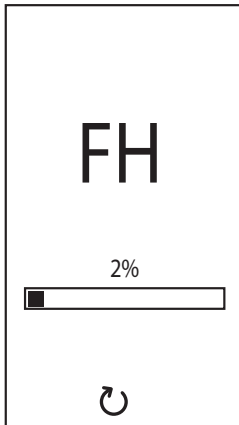

fig. 8- Vent with fan on
- For the next 20 seconds the display shows **FH** which identifies the heating system air venting cycle with the fan on (fig. 8).